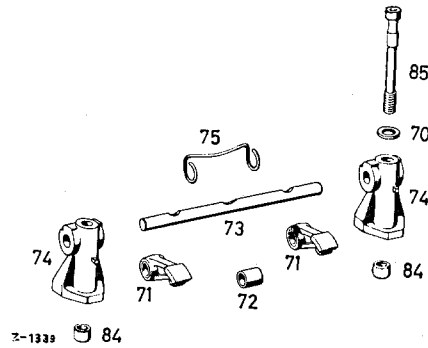

Figure 05-6/1
1. Disassemble the rocker arm mounting; to do this, pull the rocker arm shaft (73) from the wire clamps (75), the rocker arms (71) and the rocker arm brackets (74) (see Figure 05-6/1).